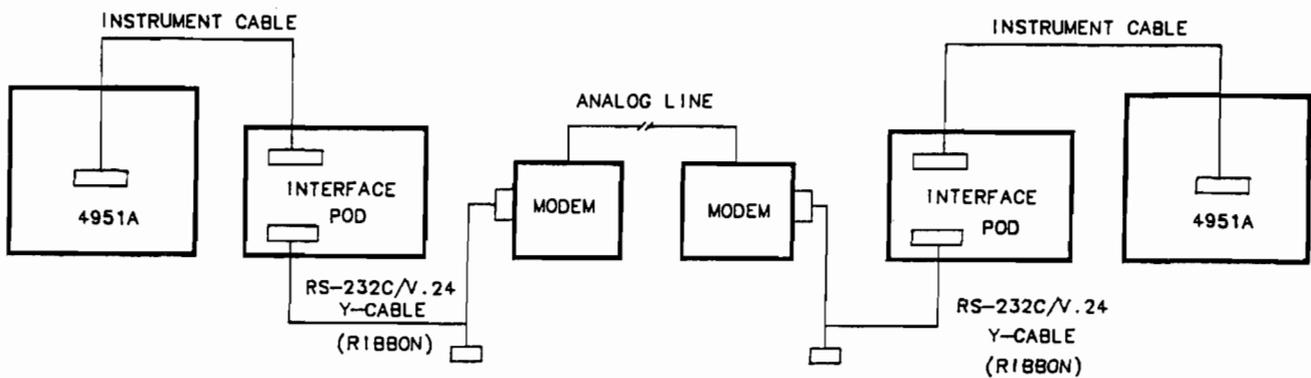

Figure 2-3. End-to-End BERT Hookup
- a. End-to-End. Substitute a 4951A for the DTE at both ends of the line. (Figure 2-3).